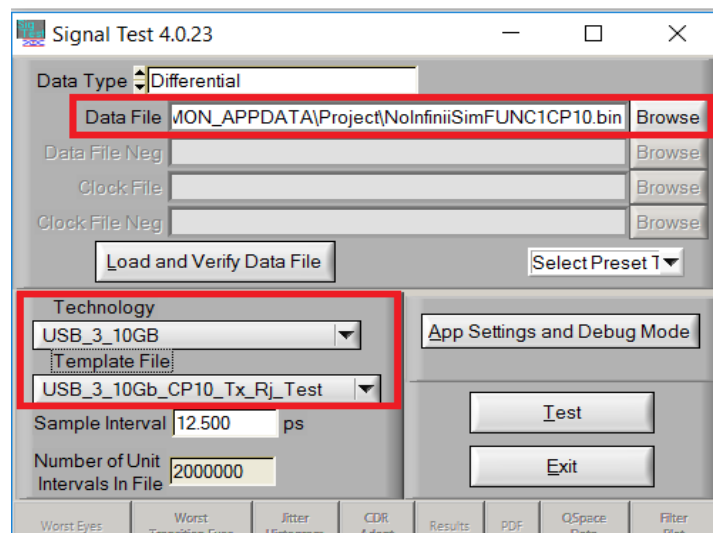

Figure 66 SigTest tool settings for measuring 10G RJ
- 11 Load the waveform file. Select the options for Technology and Template File as shown in Figure 66.